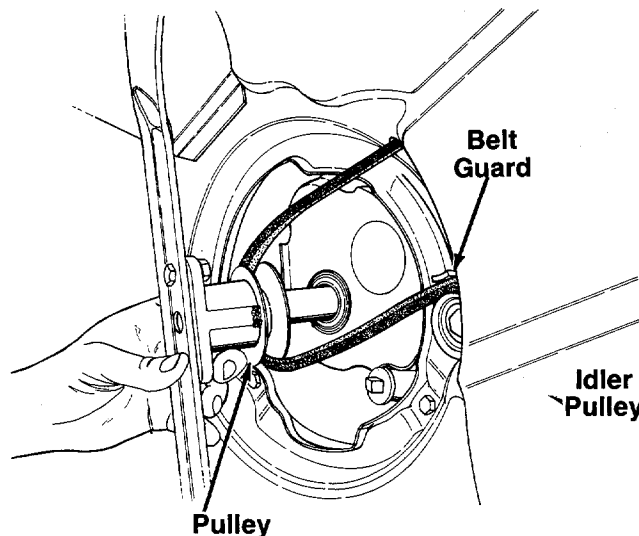

FIGURE 28.
7. Remove the belt from between the idler pulley and the belt guard on the idler pulley bracket. Refer to figure 28.
- Release the idler pulley so it falls down into position. Slide the belt in between the idler pulley and the belt guard on the idler pulley bracket as shown in figure 28.